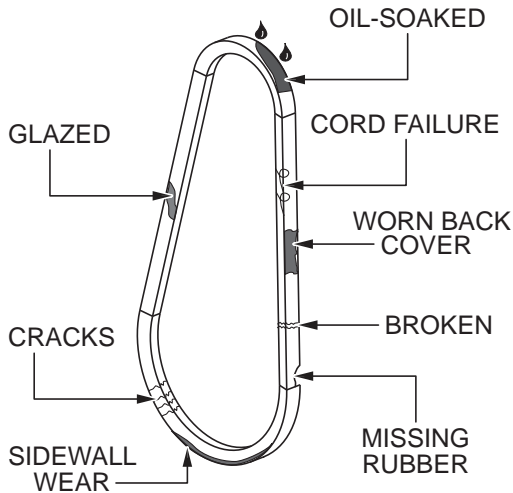

Figure 57. V-Belt Inspection
1. Inspect the V-belt (Figure 57) to determine if it is frayed, peeling, full of tiny cracks, has pieces of rubber missing, or is otherwise damaged.
2. Inspect the V-belt (Figure 57) to determine if it is oil-soaked or glazed (a hard, shiny appearance on the sides of the belt). Either of these conditions can cause overheating of the belt, which can weaken the belt and increase the possibility of it breaking.